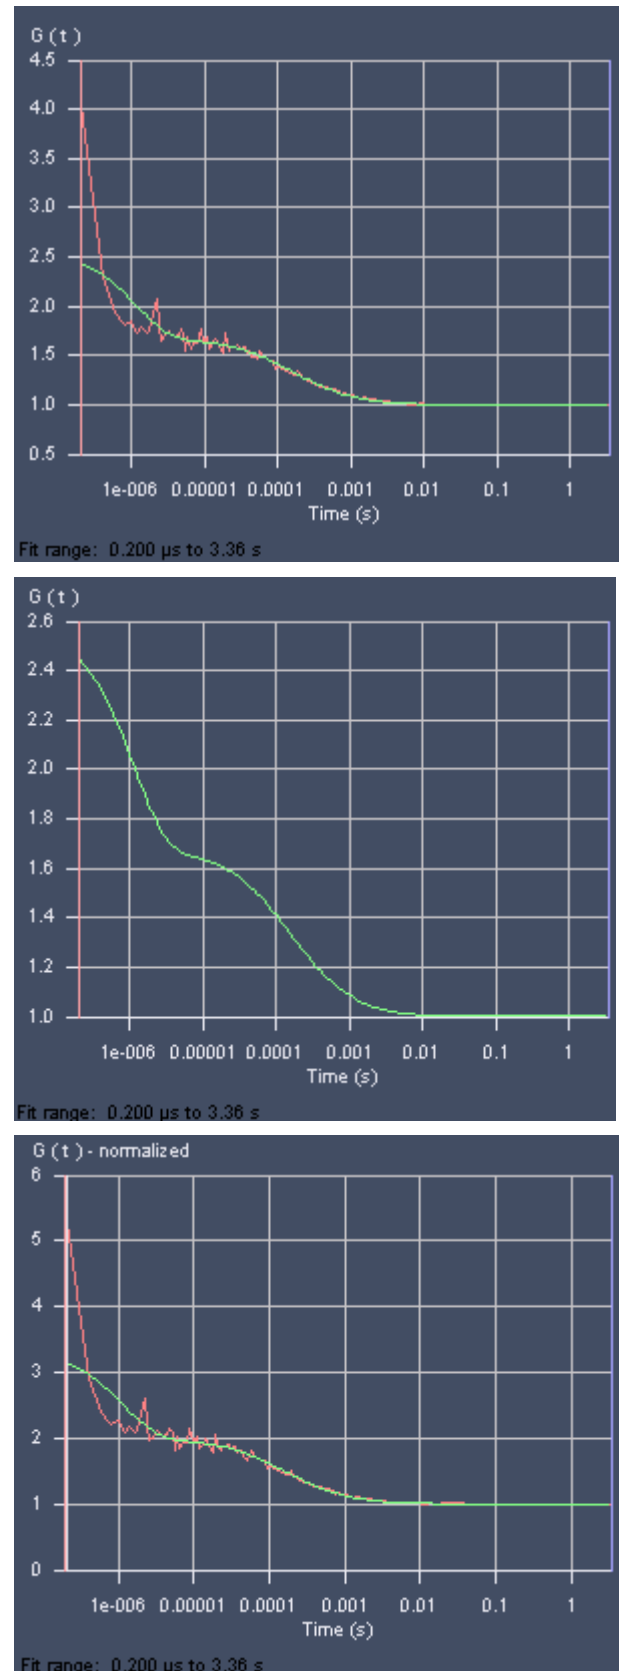

Fig. 108 Fit Correlation Curve (standard display), with fit curve only, in normalized form
- Select **Normalize** to display the correlation curves in a normalized form (Fig. 108). The amplitude of the diffusion contribution will be normalized to 2, not the total amplitude, if other term like triplet state were used in their normalized form. This option is only available for the **Fit Correlation** diagram.